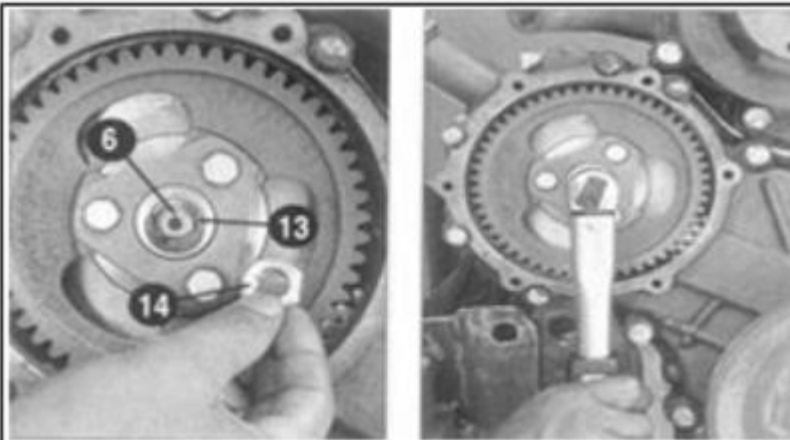

Fig: 21. View of crank shaft (Courtesy: Escort Tractor)
- i) Place the spring washer (13) on to the pump drive shaft (6) and tighten the drive shaft nut (14) to 80Nm torque.
- j) Rotate the crank shaft and ensure free rotation of gear as shown in Fig: 21.